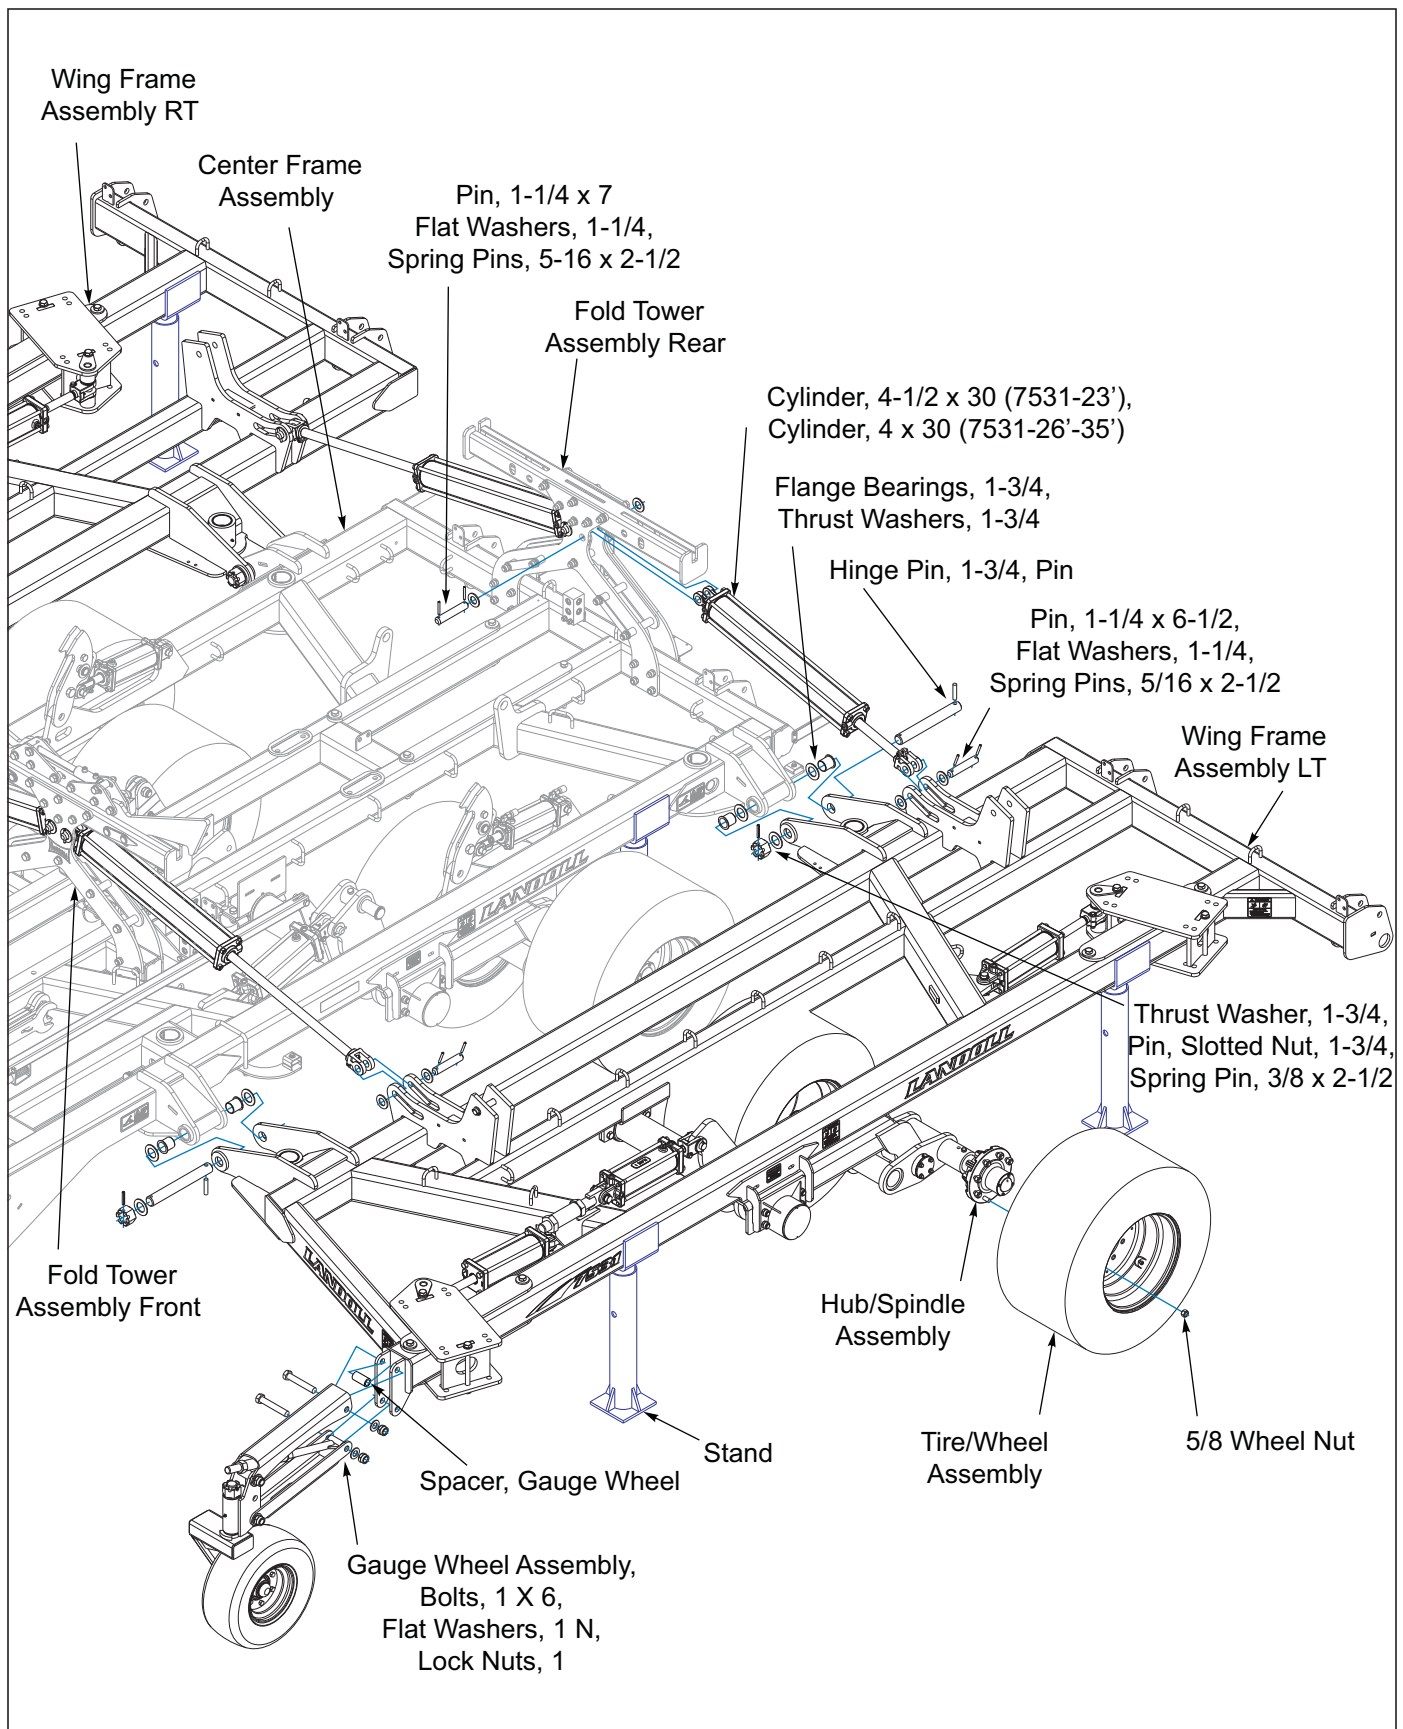

Figure 3-5: Wing Frame Assembly Installation 7531-23' - 35'
See Figure 3-5
6. Attach the base end of the fold cylinders to the front and rear fold tower assemblies with 1-1/4 x 7 pins, washers and roll pins provided *See Figure 3-5*. Attach the rod end of fold cylinders to the center frame with 1-1/4 x 6-1/2 pins, 1-1/4 flat washers and 5/16 x 2-1/2 spring pins. The fold cylinders come with the fittings supplied already installed and should have a regular 90 degree fitting on the base end and a black 90 degree restricted fitting on the rod end. Install with fittings facing towards the center of machine.